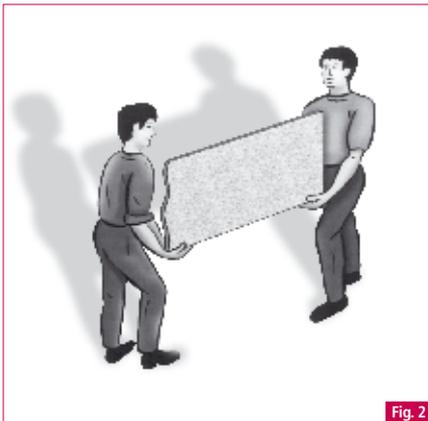

Fig. 2
- 5.4 Never attempt to carry sheets of HI-MACS[®] on your own. The sheet should be lifted by two people, one at either end. Always lift in a vertical position (Fig. 2).